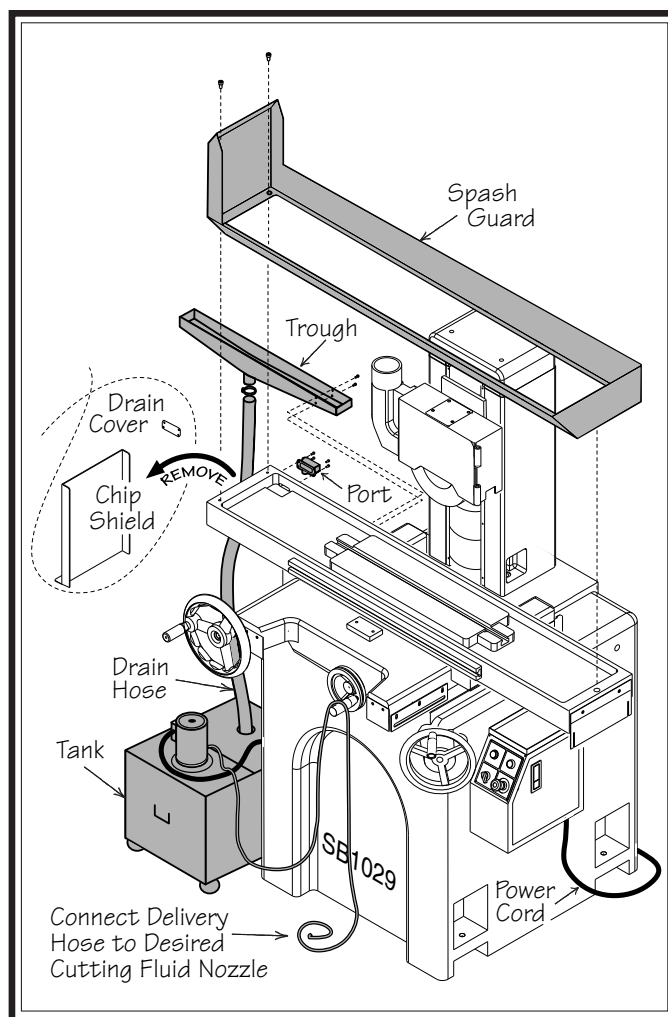

Figure 2. Cutting fluid system installation.
5. Remove the existing chip shield and drain cover from the table, as shown in **Figure 2**. Retain the fasteners to install the SB1044 splash guard and port.
6. Apply silicone sealant to the mounting flange of the port shown in **Figure 2**.
7. Using the fasteners from the machine in **Step 5**, install the port, splash guard, and the trough to the machine, as shown in **Figure 2**.